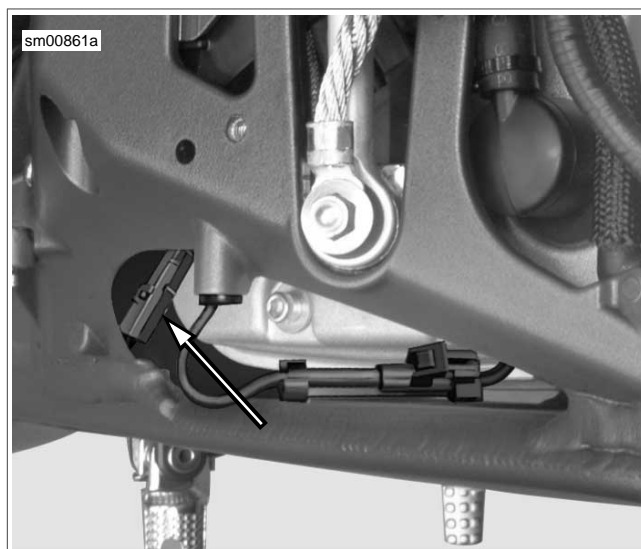

Figure 4-15. Oxygen Sensor Connector [137] (Typical)
7. See Figure 4-15. Unplug 1-place connector [137].
5. See Figure 4-15. Connect 1-place connector [137] to wiring harness.